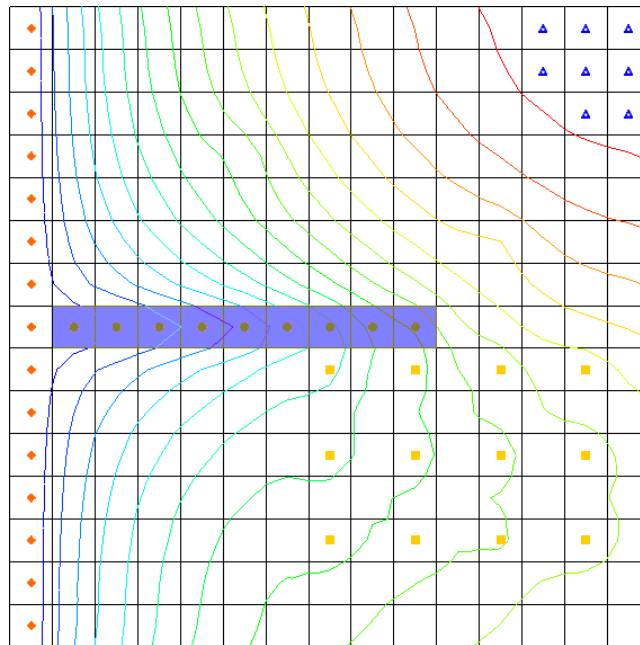

Figure 4 Location of the drain boundary conditions
1. Using the **Select Cells**  tool while holding down the *Shift* key, select the cells in columns 2-10 of row 8 (highlighted in Figure 4).